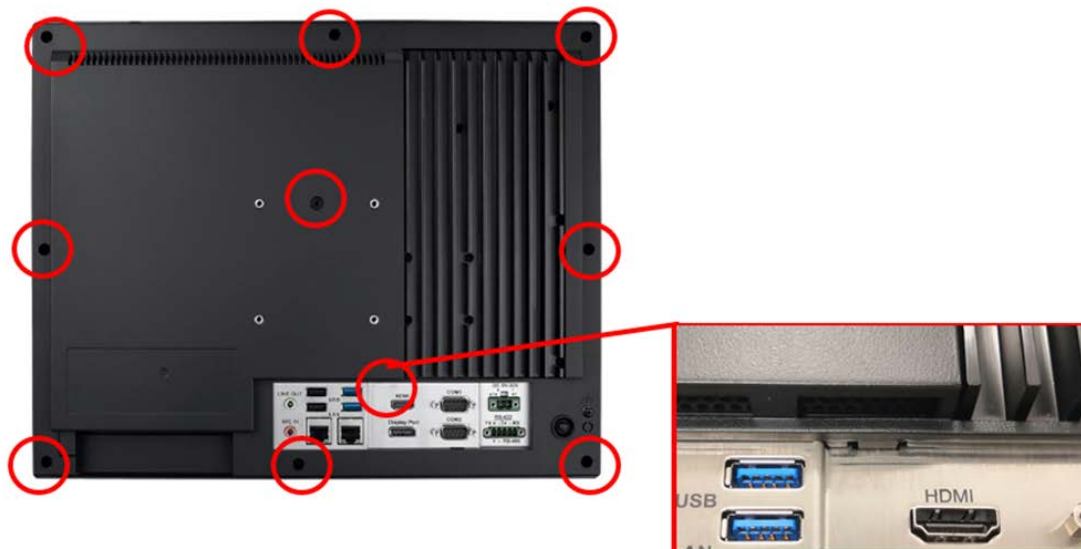

Figure 2.5
1. Remove the 9 screws (circled in red) and take out the clip from the rear cover to remove the rear cover (see Figs. 2.5 and 2.6).
1. Follow Step 1 of Section 2.3 to remove the rear cover (see Figs. 2.5 and 2.6).
1. Follow Step 1 of Section 2.3 to remove the rear cover of the panel PC (refer to Figs. 2.5 and 2.6).